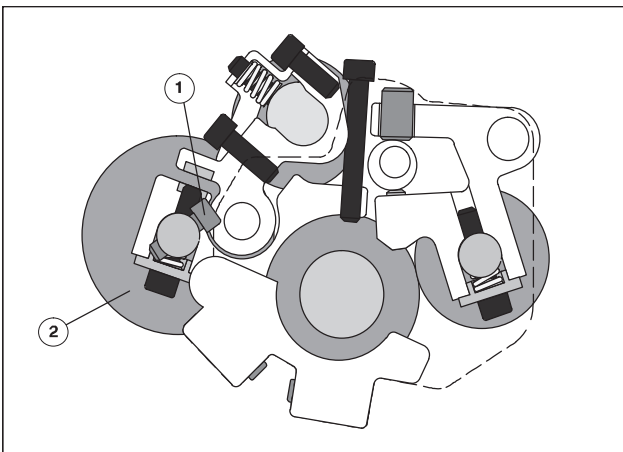

Fig. 52 Adjusting the plate dampening roller relative to the plate
1. Engage the dampening form roller (Fig. 52/2) at the plate using the special function SF 01.
6. Check the ink stripe on the plate and if necessary readjust with the adjusting screws (Fig. 52/1).